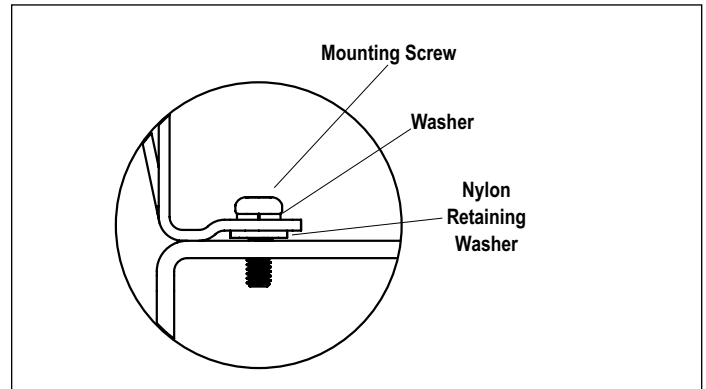

FIGURE 6 - NYLON WASHER INSTALLATION (WHERE NEEDED)
18. **For installations where the bracket has a cover**, insert the supplied mounting screws through their respective washers. These are then inserted through the cover and retained by nylon washers on the other side. See Figure 6. Typically the radar will be aligned before the cover is installed.